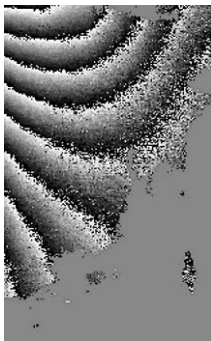

Figure 5.1 Noisy Phase Image
- An extremely noisy grayscale signal appears in the phase image. (**Figure 5.1**)